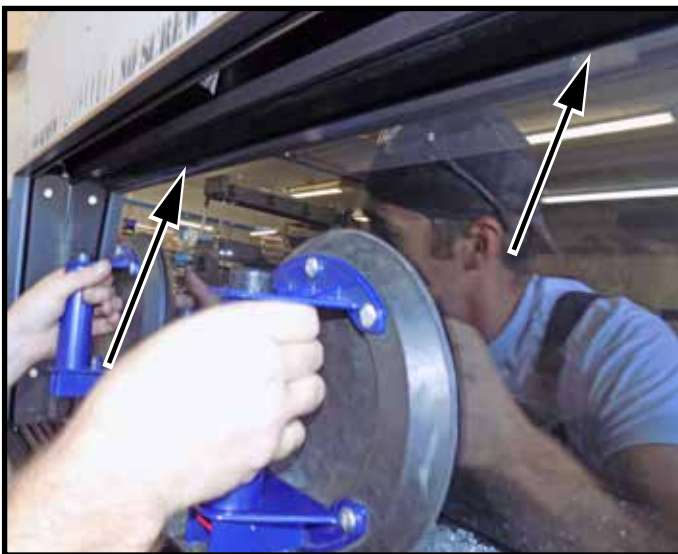

Figure 43: Raising top edge into the inner upper slot.
5. Once the lower edge has been inserted into the gap, tilt the glass plate forward and raise the upper edge into the upper inner slot (Figure 43).